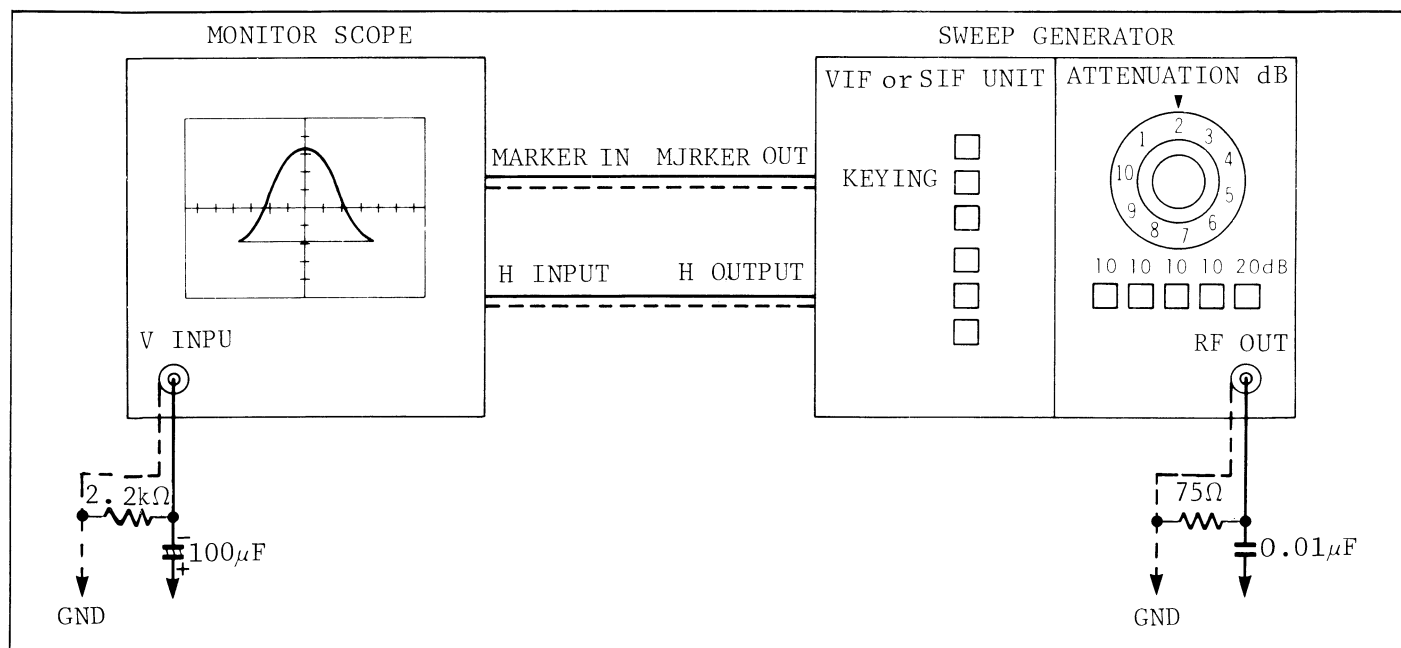

Fig. E5 Connection of Measuring Equipment
1. Connection of measuring equipments is shown in Fig. E5.